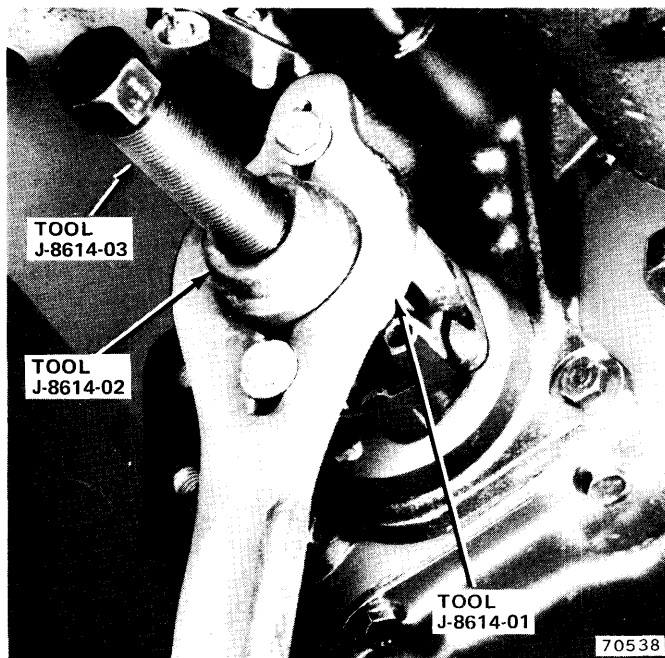

Fig. 8-9 Removing Yoke
(5) Remove transfer case yoke using Tools J-8614-01,02,03 (fig. 8-9).
(4) Remove yoke from shaft using Tools J-8614-01,02,03 (fig. 8-9).
(8) Remove front output shaft yoke using Tools J-8614-01, 02, 03 (fig. 8-9).